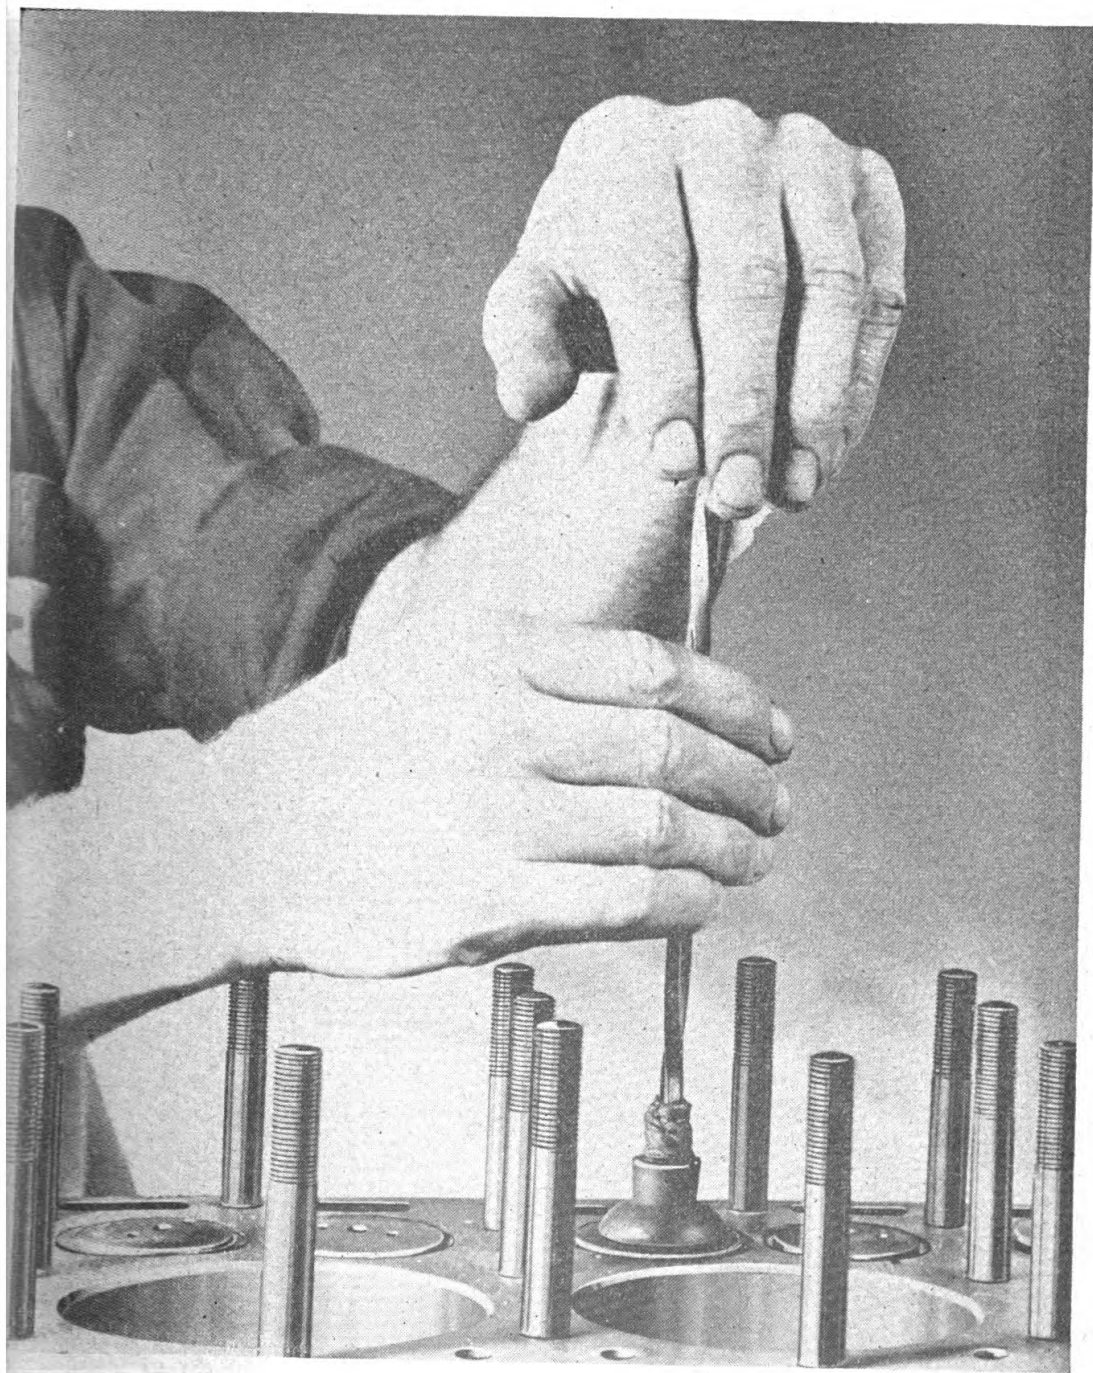

Figure 10. Grinding Valves.
- b. **Replacing the Head.** (1) Coat top and bottom of head gasket with grease and place on cylinder block.
- (2) Place the head on the cylinder block. Do not injure the stud threads in the process.
- (3) Replace the accessories while replacing the stud nuts.
- (4) Tighten the stud nuts, starting from the center of the head and progressing alternately from side to side towards the ends of the head.
- (5) Refill the cooling system.
(6) Retime the distributor (par. 29k).
36. GRINDING VALVES (fig. 10).
a. Removal. Remove the cylinder head as explained in paragraph 35 and set it upside down on wooden blocks. Depress the valve springs and push out the keepers from the slots on the end of each valve stem. Lift valves out of the block. Wash the valves and valve seats with solvent (SD). Check for pitting.